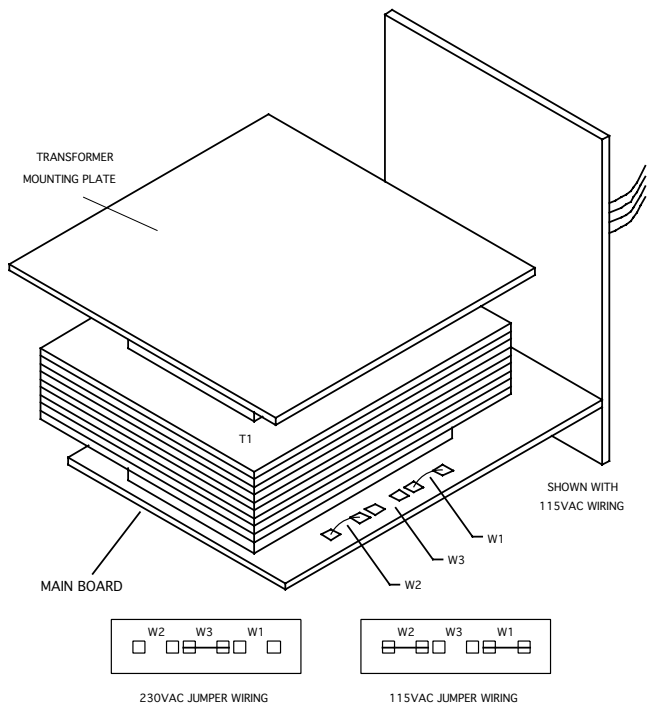

Figure 3.1 — Main Board Power Jumpers
2. Locate the main board assembly and position it in front of you the same way as shown in Figure 3.1 on the following page.